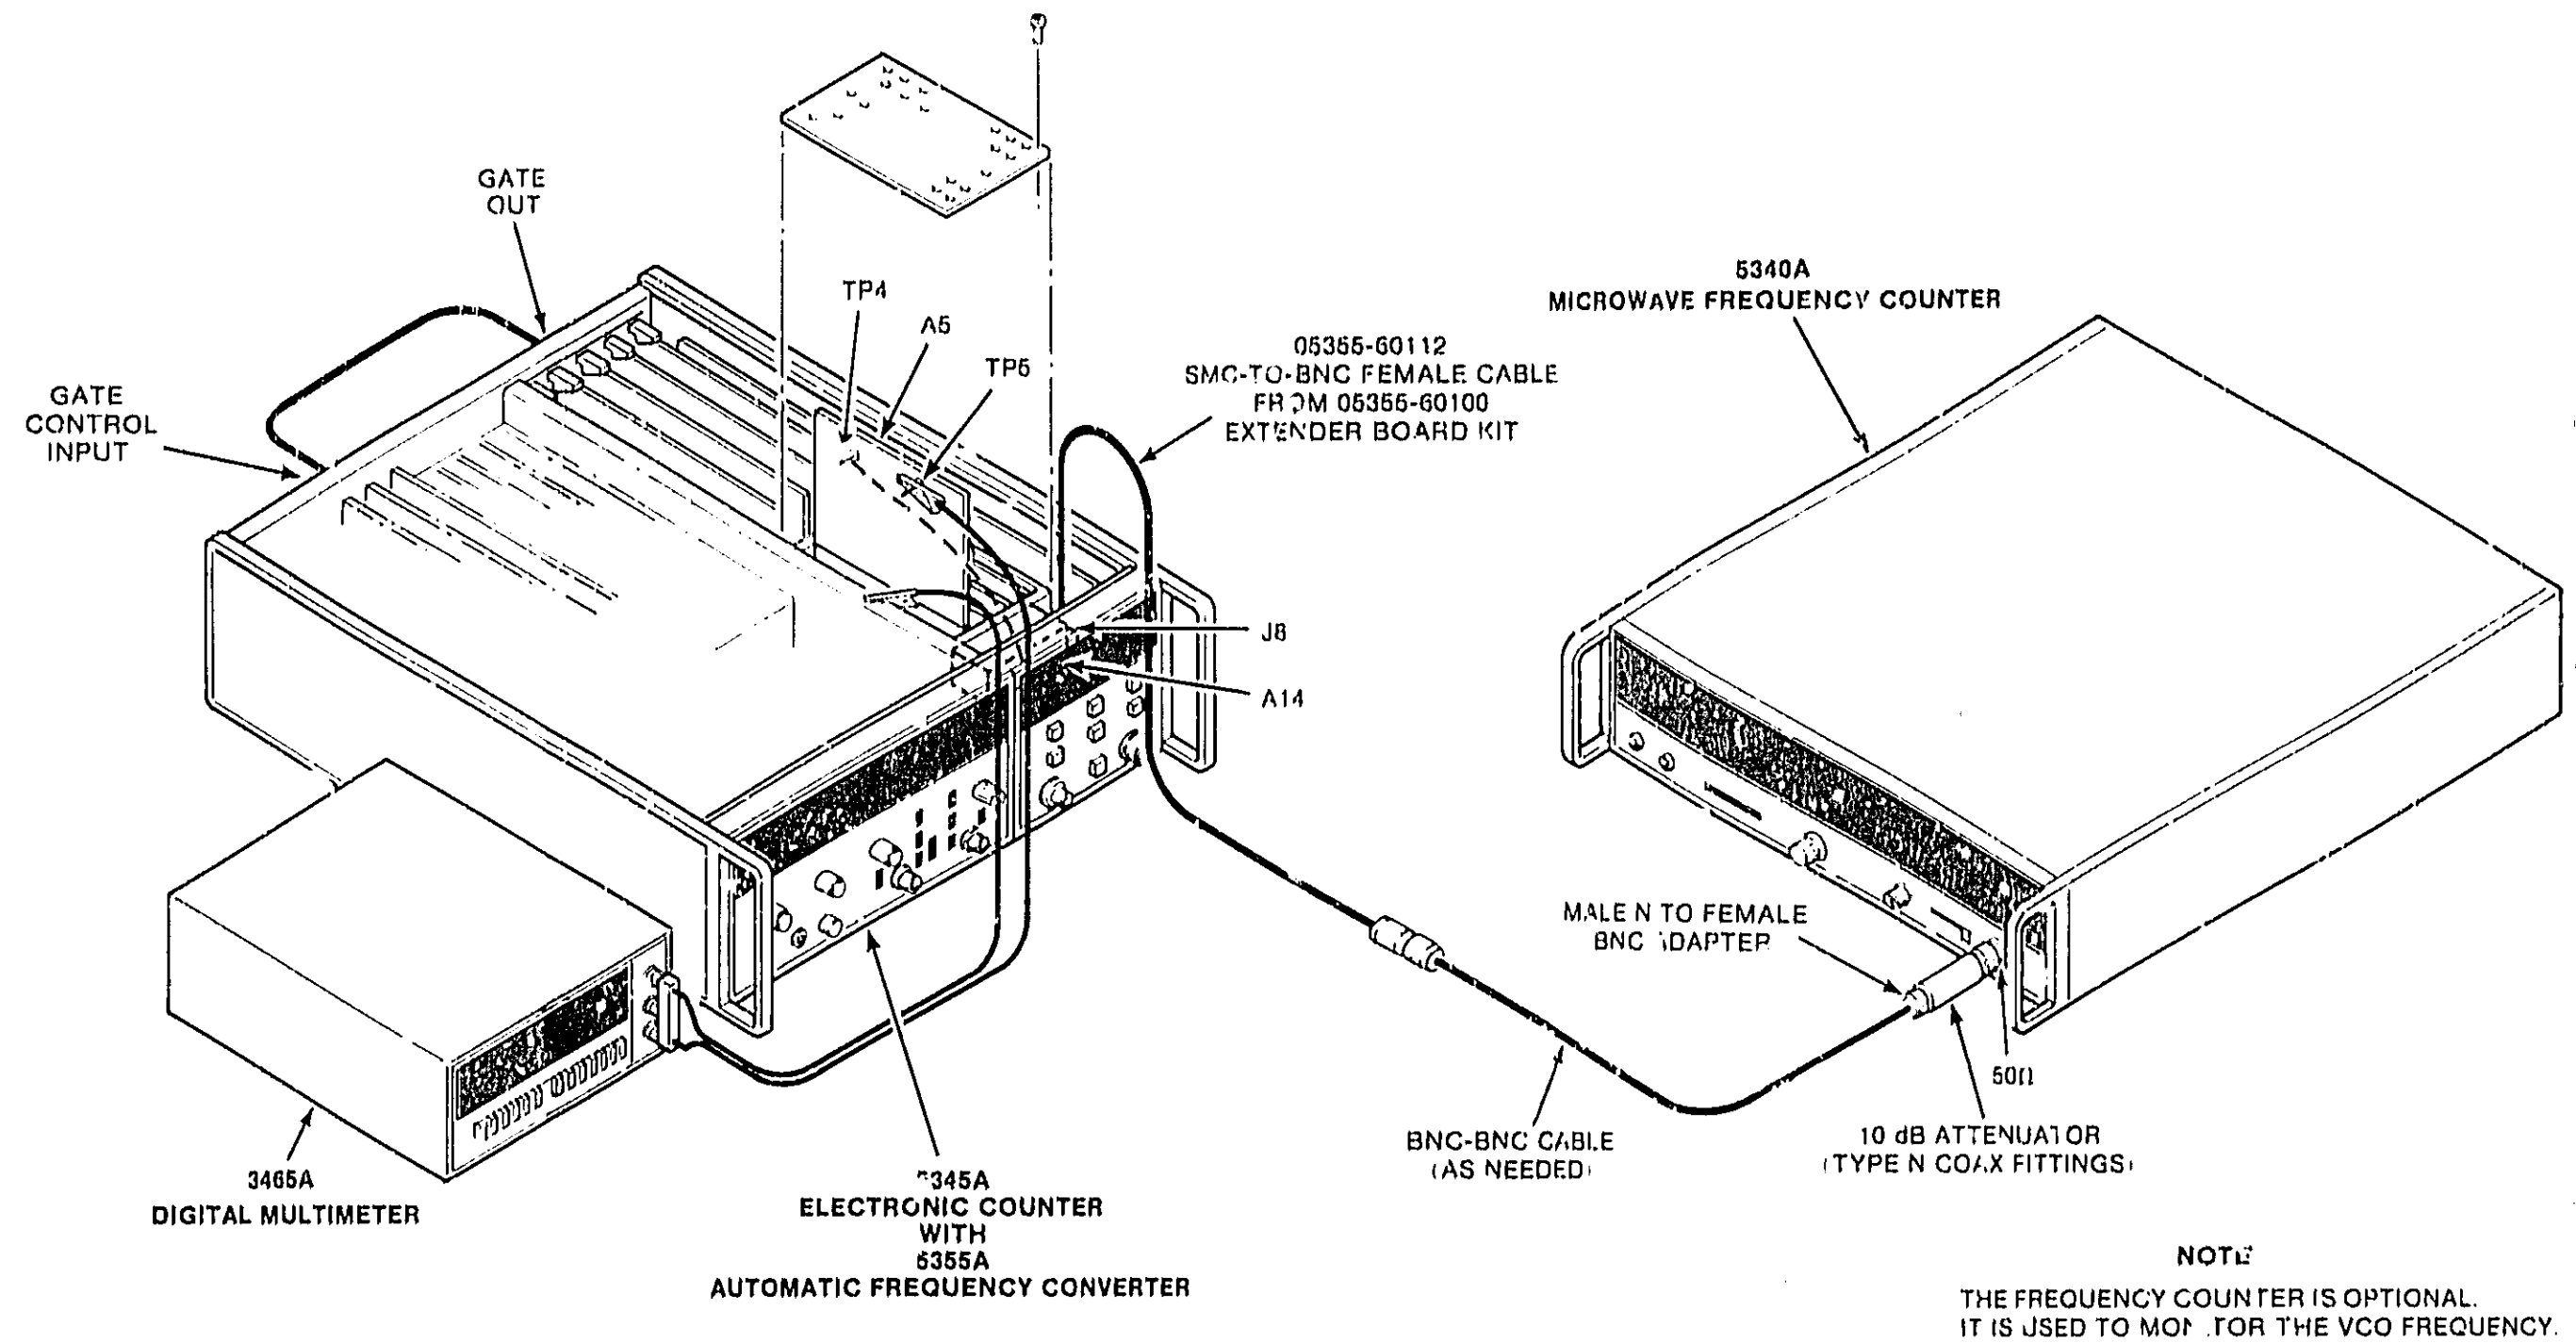

Figure 5-2. A5 Filter Tuning Adjustment Setup
- a. Connect the test equipment as shown in *Figure 5-2*. The maximum voltage to be measured is 15 volts. Adjust the multimeter accordingly.
The power level at A14J8 is about +13 dBm. Use a 10 dB attenuator in series with the 50Ω input to the HP Model 5340A shown in *Figure 5-2*.